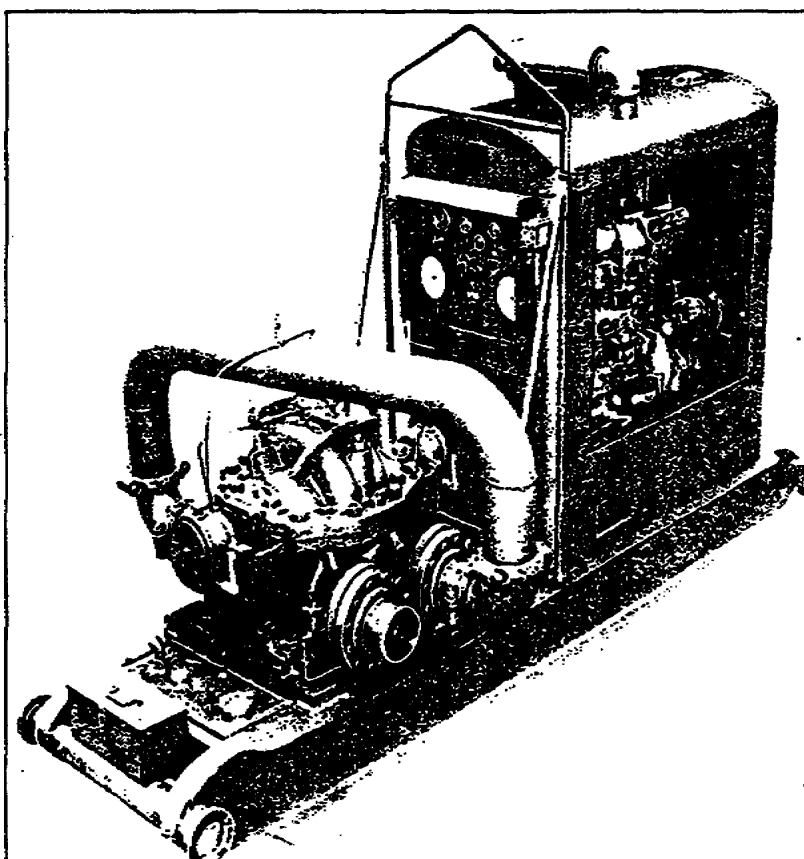

Figure 3. The 6-inch, two-stage pumping unit
a. Pump station operation in series. Pumps in a mainline pump station are invariably hooked up in series, since the primary consideration is head capacity. Pumps hooked up in series actually pump the fuel more than once. This repeated pumping builds up high pressure, which pushes the fuel through the pipeline for a long distance to the next pump station. The 6-inch, single-stage and the 4-inch, four-stage pumps can be hooked up in series by use of a crossover pipe (Figure 3). The 4-inch, four-stage pump unit is preset to always operate in series.